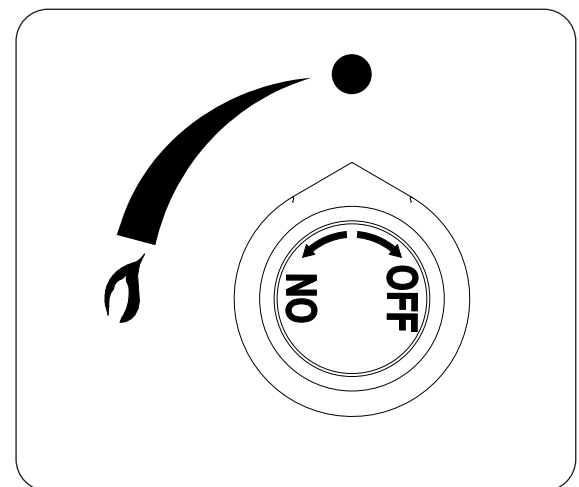

Fig. 41-2
4. **Once the flame is in position**, turn the gas control knob counter-clockwise to the **ON** position, depress, and hold for 15 seconds (see Fig. 41-2). Your burner should light within 5 seconds.
To extinguish your gas burner, turn the gas control knob clockwise to the **OFF** position (see Fig. 41-2). Be sure the control knob is turned fully off to avoid any gas leakage.